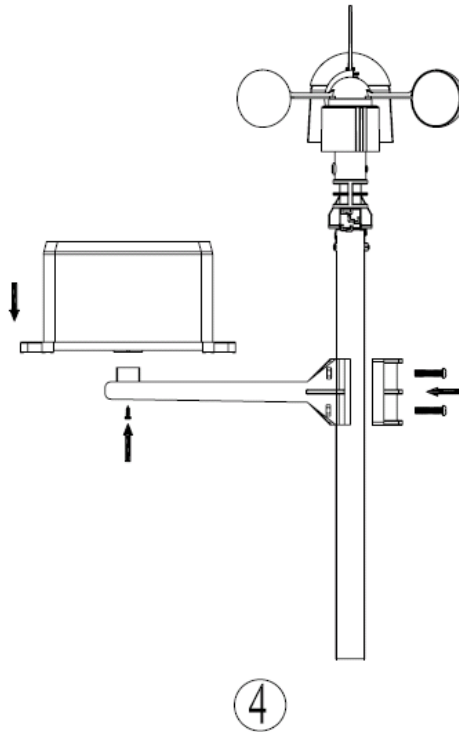

Figure 4
4. Connect the rain gauge with long set screw. Tighten with precision screwdriver, as shown in Figure 4.